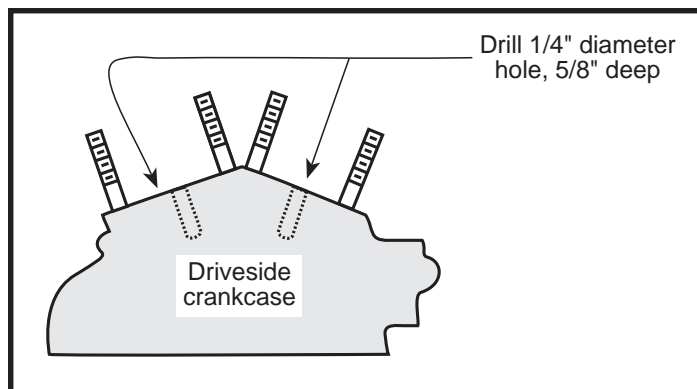

Figure 1
- B. Drill 1/4" diameter holes perpendicular to gasket surface 5/16" deep. **See Figure 1.**